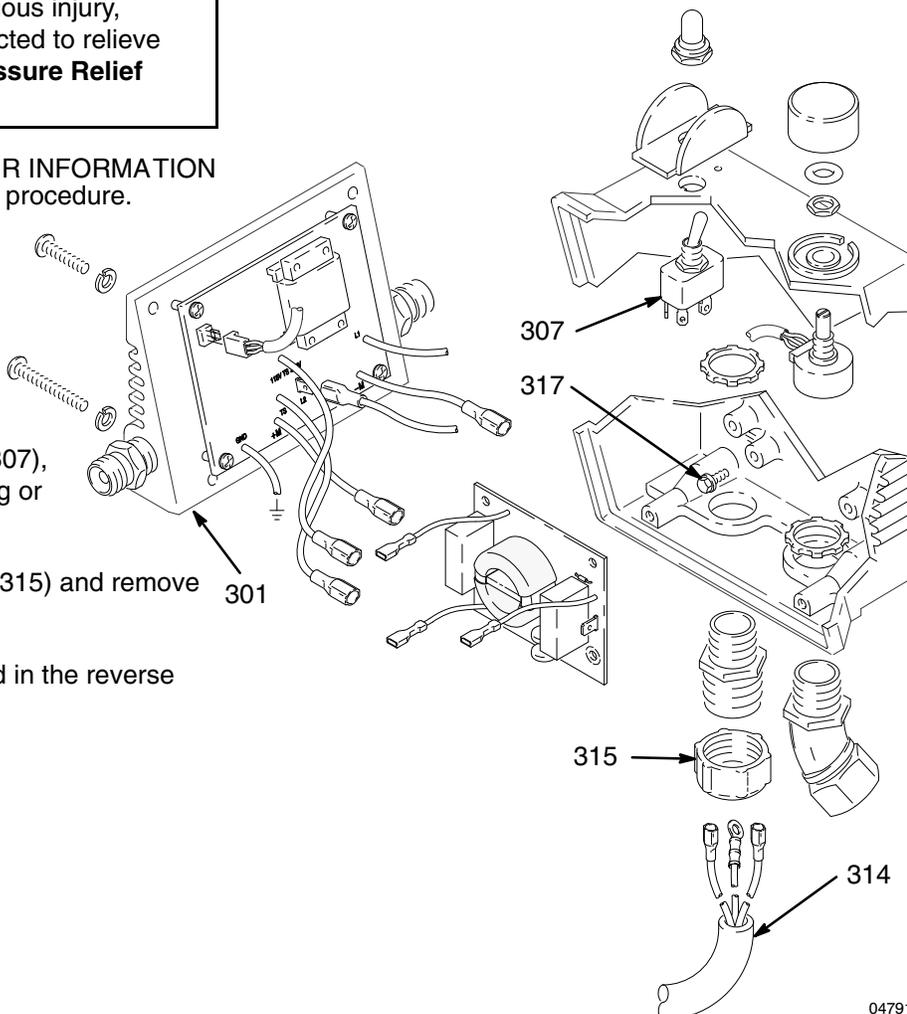

Fig. 16
Power Supply Cord Replacement (Fig. 16)
2. Remove the pressure control board/cover (301).
3. Disconnect the two wires from the ON/OFF switch (307). See Fig. 16.